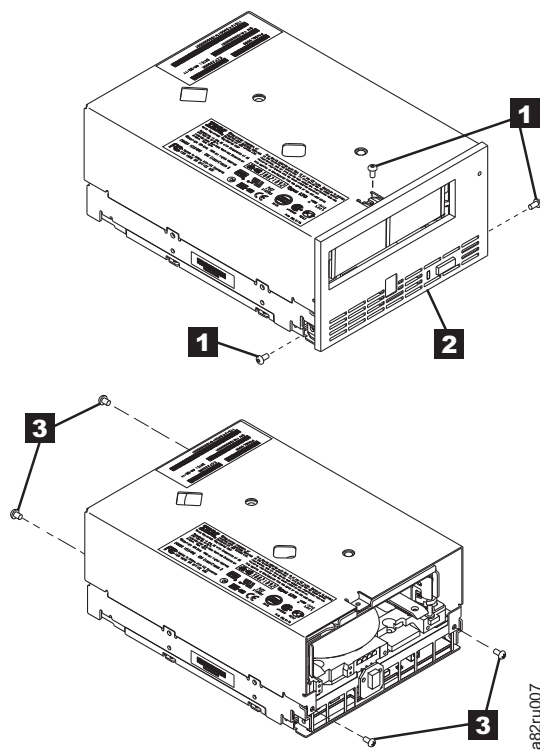

Figure A-5. Removing the bezel and the cover from the 4U internal drive
- a. With a Phillips screwdriver, remove the three screws and washers (see **1** in Figure A-5) that secure the bezel **2** to the internal drive, then remove the bezel.